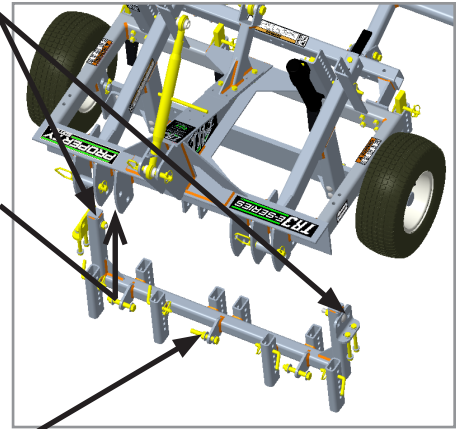
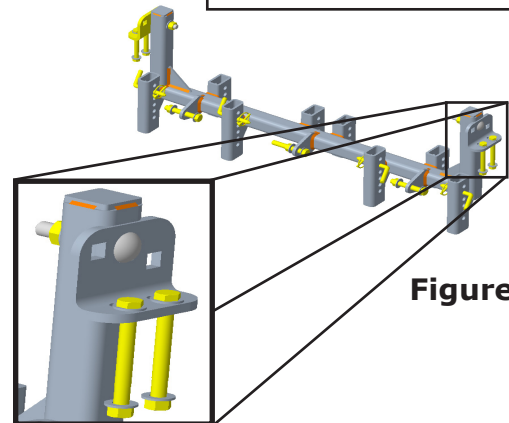

Figure 8.2
Figure 8.3
1. Remove the mounting brackets on both ends of the new mounting bar using (2) 3/4" wrenches and (1) 15/16" wrench as well as the bolts and nuts from mounting bar ears using (2) 15/16" wrenches (**Figure 8.2**).
3. Reattach the new mounting brackets (removed in step 1) by aligning the 2 holes in the new mounting brackets with the 2 holes in the existing frame, on both ends, using (2) 3/4" wrenches.
4. Slide the Carriage bolt into the top hole in bracket and through the hole in mounting bar and tighten nut using (1) 15/16" wrench (**Figure 8.3**).